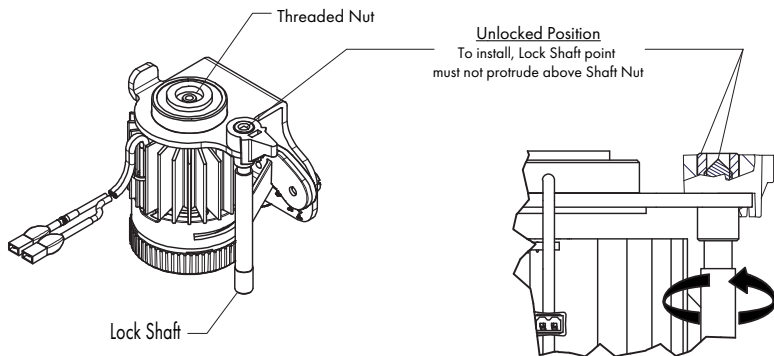

FIG 10.1 Preparing Lamp Module J2S -TW for installation
Step 1 Before installing Lamp Module, make sure accessories & correct LED Power Supply Module are installed & Lock Shaft is in unlocked position - **FIG 10.1 & 10.2.**